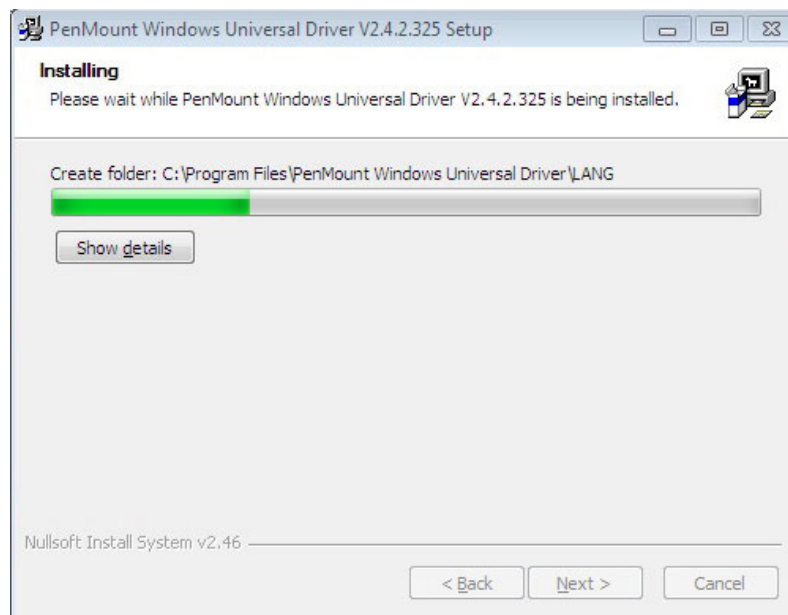

Figure 6-30: Setup Status
Step 11: The installation begins. See **Figure 6-30**.